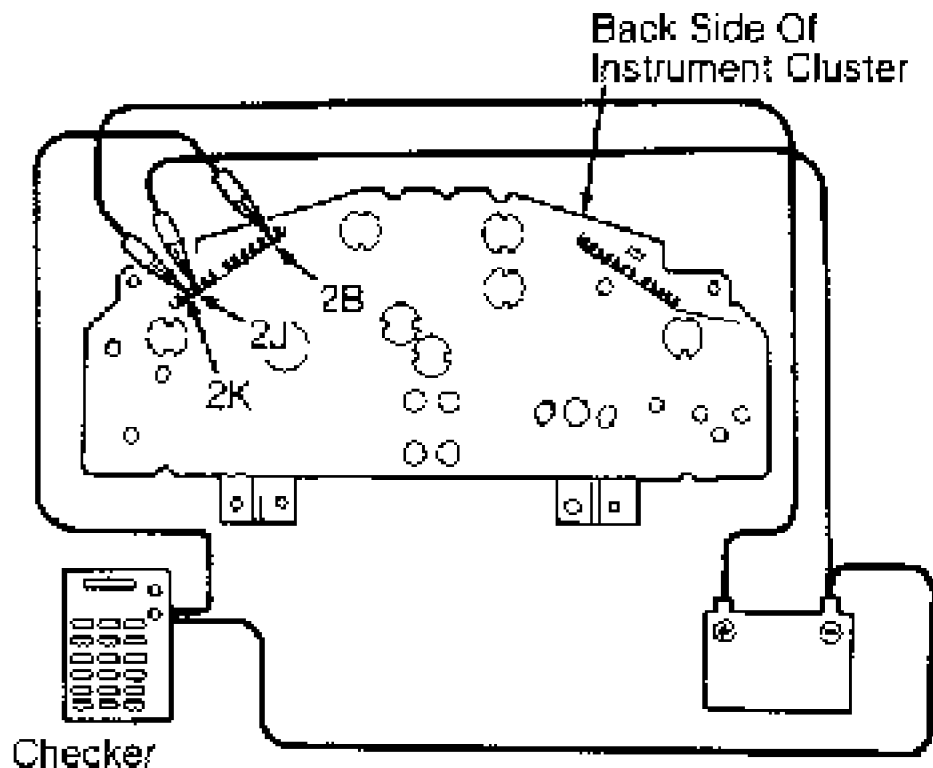

Fig. 5: Checking Oil Pressure Gauge (Miata)
1) Remove instrument cluster. Apply 12 volts to terminal 2K, and ground terminal 2J of instrument cluster connector. See Fig. 5.